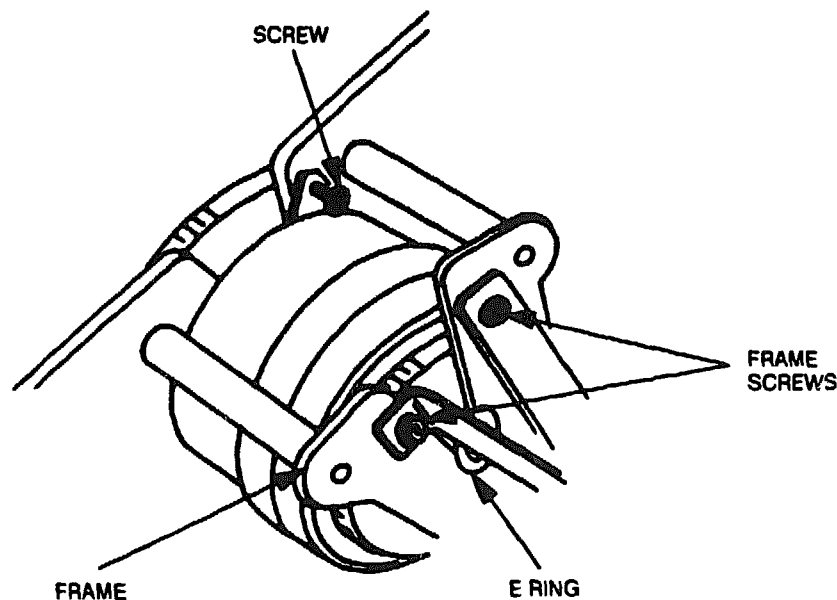

Figure 6-93 Upper Side Frame (L) Screws and E Ring
2. Using a small, flat-tipped screwdriver, remove the E retaining ring shown in Figure 6-93 from the right end of the clutch shaft. Loosen or remove the screw on the upper side frame (L). Then loosen the two screws on the clutch support frame to allow clearance for removing the clutch (see Figure 6-93).